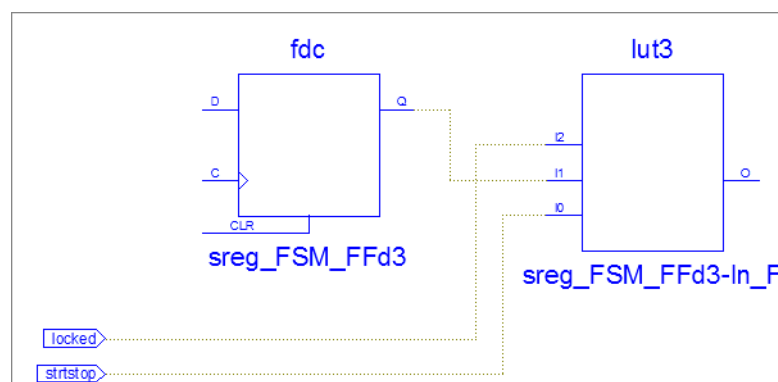
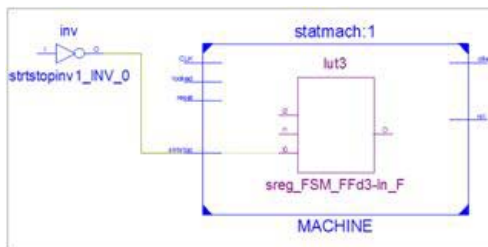

Figure 5-15: Start-Up Schematic
Figure 5-16: Step Schematic
5. Comparing the start-up schematic (Figure 5-15) with the one we obtained at Step 6: **Showing and Hiding Block Contents** (Figure 5-16), you see that the **sreg_FSM_FFd3-In_F** primitive is not placed inside the **MACHINE** hierarchy block. In addition, **MACHINE** I/Os are represented as primary design pins.